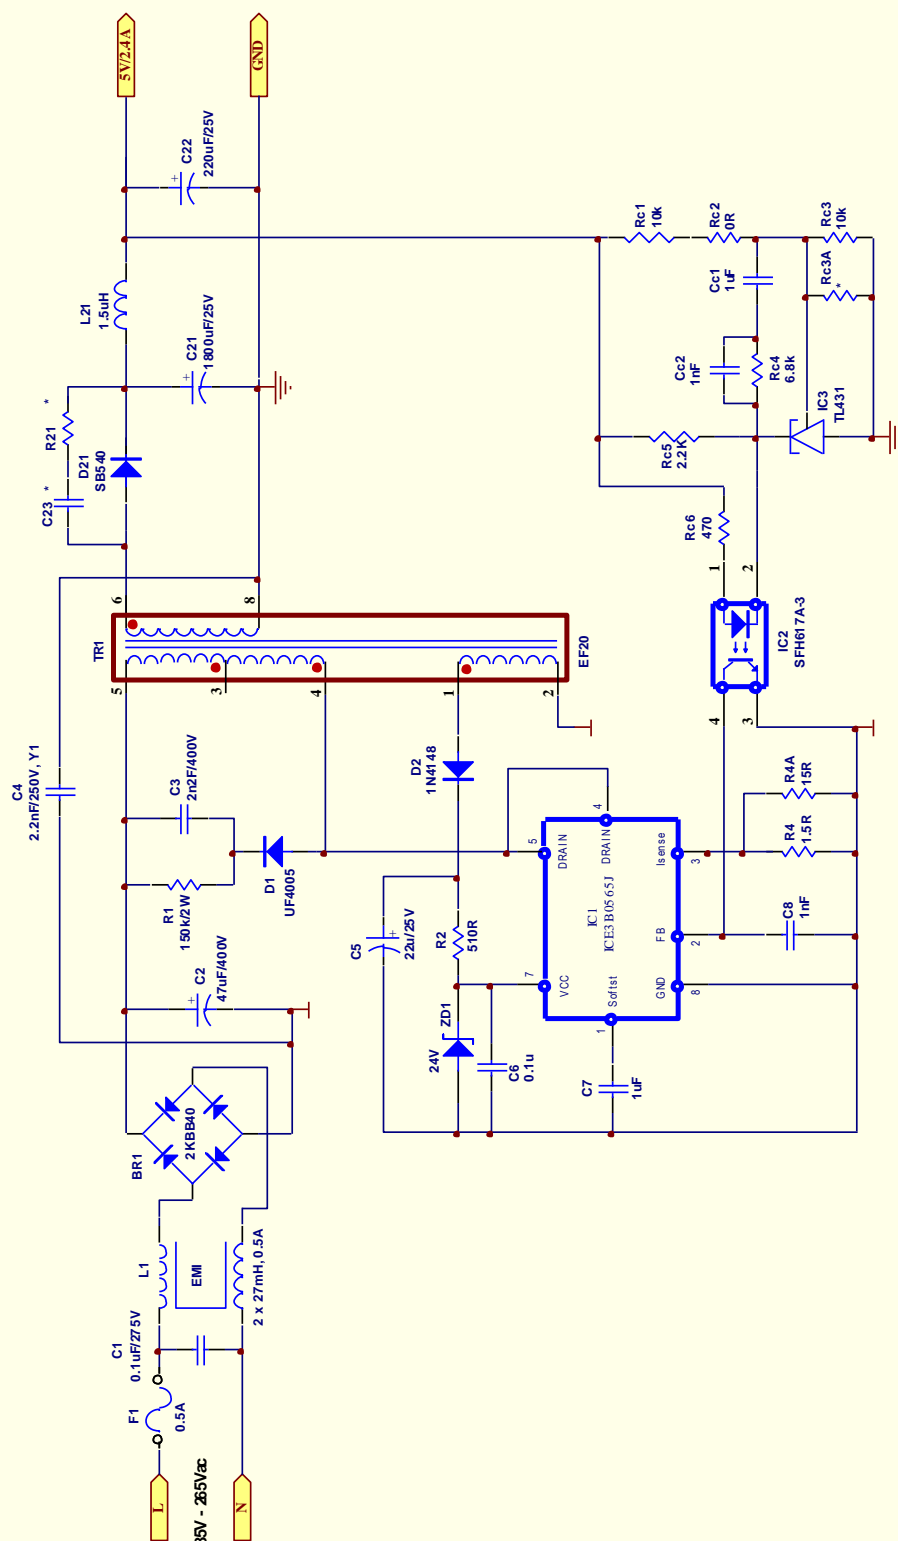

Figure 4 Typical application circuit with ICE3B0565J 12W 5V
Startup time is counted from applying input voltage to IC turn on. ICE3Bxx65J(G) has a startup cell which is connected to input bulk capacitor. When there is input voltage, the startup cell will act as a constant current source to charge up the Vcc capacitor and supply energy to the IC. When the Vcc capacitor reaches the Vcc_on threshold 18V, the IC turns on. Then the startup cell is turned off and the Vcc is supplied by the auxiliary winding. Start up time is independent from the AC line input voltage and it can be calculated by the equation (1). Figure 4 shows the start up time of 85Vac line input.
where, R_{opto} :series resistor with opto-coupler at secondary side (e.g. Rc6 in Figure 4)
G_{TL431} :voltage transfer gain of the loop compensation network (e.g. Rc1, Rc2, Rc3, Rc4, Rc5, Rc6, Cc1, Cc2 in Figure 4)
where, R_{opto} : series resistor with opto-coupler at secondary side (e.g. Rc6 in Figure 4)
G_{TL431} : voltage transfer gain of the loop compensation network (e.g. Rc1, Rc2, Rc3, Rc4, Rc5, Rc6, Cc1, Cc2 in Figure 4)
It is particularly important that the V_{CC} voltage must stay above V_{VCCoff} (i.e. 10.3V). Otherwise, the expected low standby power cannot be achieved. The IC will go into auto-restart mode instead. A reference V_{CC} circuit is presented in Figure 4. This is for a low cost transformer design where the transformer coupling is not too good. Thus the circuit ZD1 is added to clamp the V_{CC} voltage exceeding 25.5V in extreme case such as high load and the V_{CC} OVP protection is triggered. If the transformer coupling is good, this circuit is not needed.
1. Add RCD clamper circuit to the primary winding of the transformer: RCD clamper circuit (D1, R1 & C3) can absorb the current due to leakage inductance of transformer during switch off time of the MOSFET, so voltage spike of the drain can clamp to desired voltage level and suppress the EMI noise (refer to Figure 4).
3. Add snubber circuit to the output rectifier: Most of the radiated EMI noise comes out from the output of the system especially for a system with output cable. Adding snubber circuit (R21 and C23) to the output rectifier is a more direct way to suppress those EMI noise (refer to Figure 4).